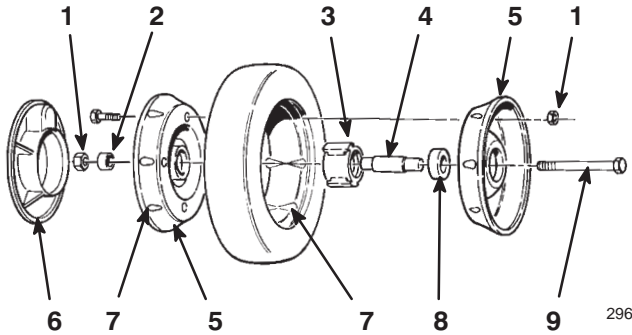

Figure 34
3. Remove the cap screw, the wheel spacer, and the locknut mounting the wheel to the pivot arm (Fig. 34).
4. Separate the wheel halves from the tire by removing 4 cap screws and 4 locknuts (Fig. 34).
Note: If you remove the bearings from the bearing/hub assembly, remove them by pressing on the bearing spacer (Fig. 34).
1. Position the tire onto one wheel half, aligning the lugs on each (Fig. 34).
2. Place the bearing/hub assembly into the center hole of the wheel half. Ensure that the legs of the hub are positioned over the flange of the hole (Fig. 34).
3. Place the other wheel half onto the bearing/hub assembly, aligning the wheel and the tire lugs and the mounting holes (Fig. 34).
4. Using 2 fully threaded screws or bolts (1/4–20 x 1.50 in.) and non-locking nuts, loosely secure the wheel halves together. Mount the screws or bolts in the opposing holes (Fig. 34).
5. Check the alignment of all parts and tighten the screws, alternating from side to side for a uniform fit, until the wheel halves are drawn together (Fig. 34).
6. Install the 2 cap screws and 2 locknuts previously removed in the remaining holes in the wheel halves and tighten. Remove the 2 long screws or bolts and replace them with 2 cap screws and 2 locknuts (Fig. 34).
7. Install the wheel to the pivot arm with the cap screws, a spacer, and a locknut. Ensure that the spacer is positioned between the wheel hub and the pivot arm (Fig. 34).